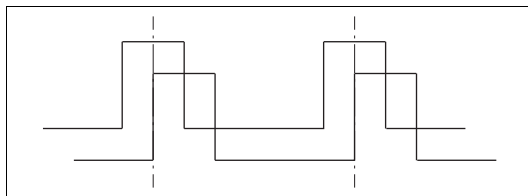
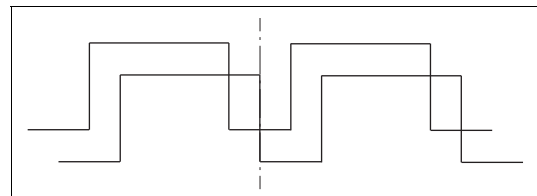

Fig. 23 Positive load < 50%
Fig. 24 Positive load > 50%
3. Connect the oscilloscope: White wire to Channel 1, Black wire to Channel 2, Blue wire to GND and -, Brown wire to +. Turn out the pick up insert **624.1** until the edges of the two signals have the greatest possible intervals to each other, see Fig. 23, page 37 and see Fig. 24, page 37.